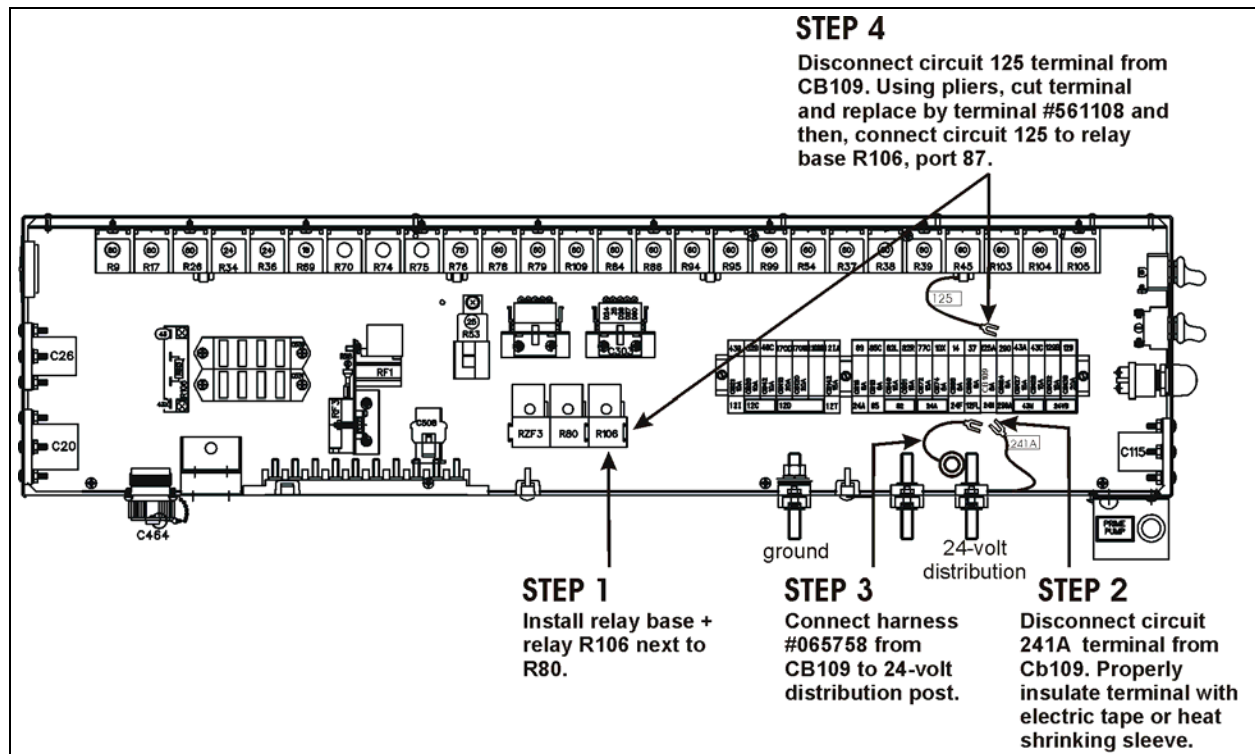

FIGURE 1 : REAR JUNCTION BOX
2. Follow steps 1 to 7 on figure 1 and 2.